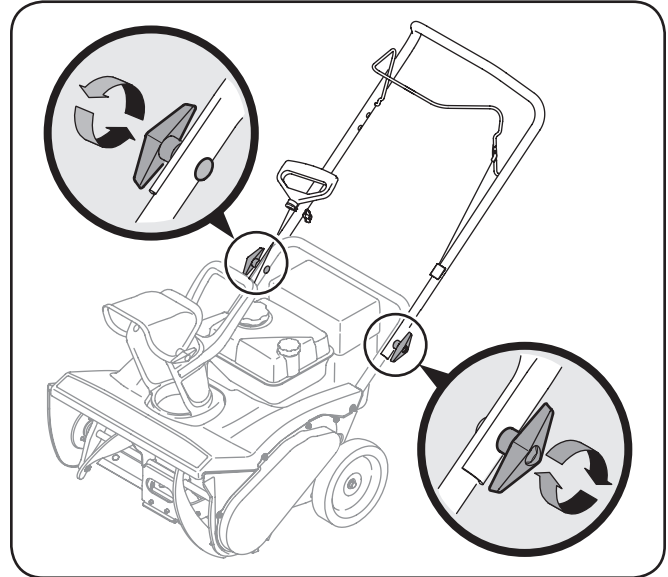

Figure 3-2
2. Tighten the wing knobs to secure the handle in place. See Fig. 3-2.